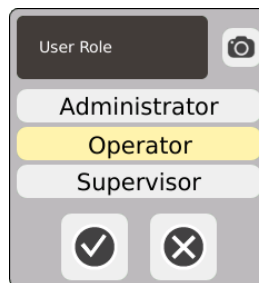

Figure 5-7 User Role Selection
- c. Select the user role and then select the  button (refer to Figure 5-7).